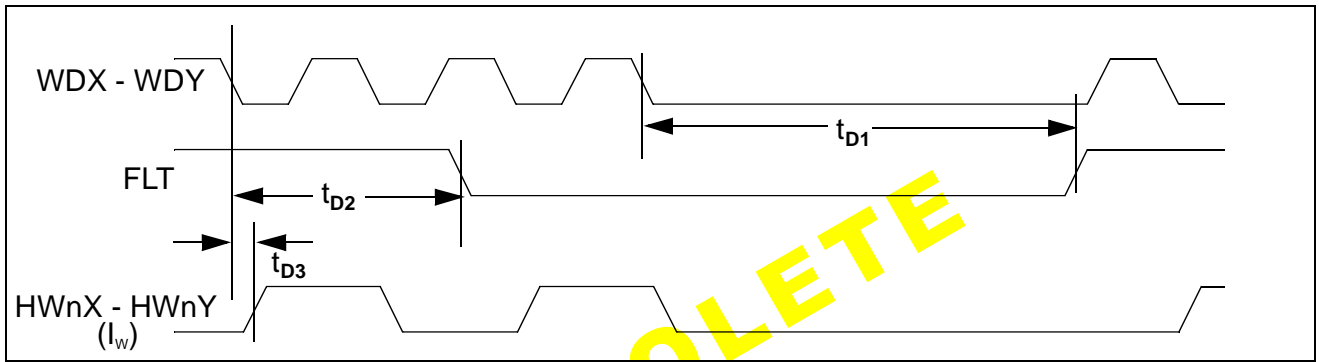

Figure 65 Write Mode Timing Diagram (with flip-flop active)
1. See Figures 65 and 66 for write mode timing diagrams